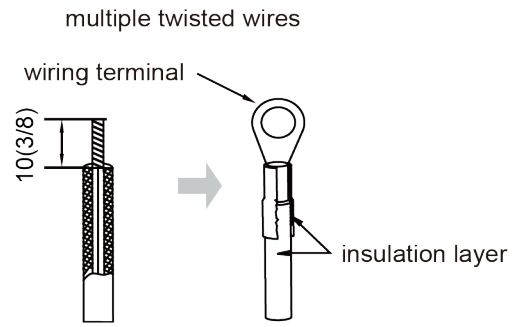

Fig.14
(2) The connection of stranded wire (as shown in fig.14)